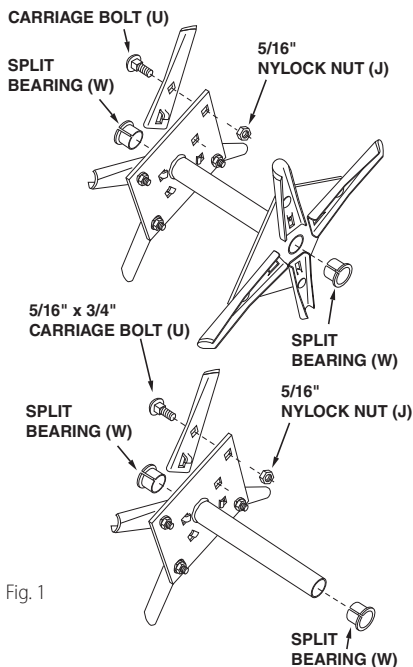

Fig. 1
Step 1: (Fig. 1)
1. Assemble eight aerator knives on the outside of each double spool assembly. Assemble four aerator knives on the outside of each single spool assembly. Rotate each knife to insert the locking tab into the spool plate, then align the square holes and secure with a 5/16" x 3/4" carriage bolt (U), and a 5/16" nylock nut (J). See figure 1.
2. Push split plastic bearings (W) into both ends of all single and double spool assemblies. See figure 1.